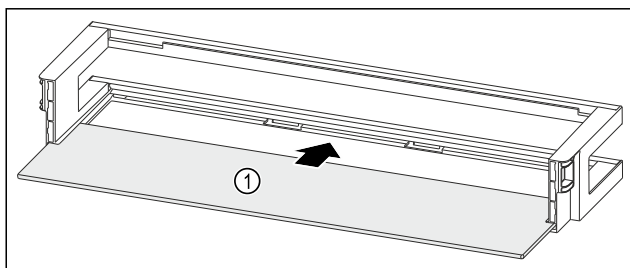

Fig. 58 Door rack with shelf
- Push the shelf Fig. 58 (1) into the side recesses.